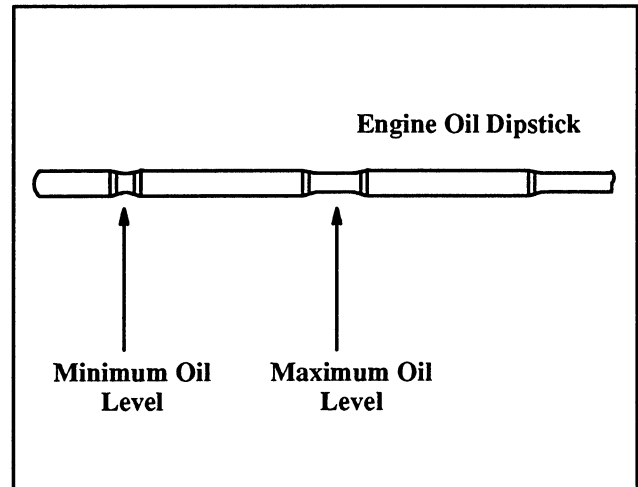

Figure 3-4. Lube Oil Safe Range
3. Replace drain plug and tighten securely. Add proper weight/type oil to crankcase until oil reads in "safe" range on dipstick (Figure 3-4).